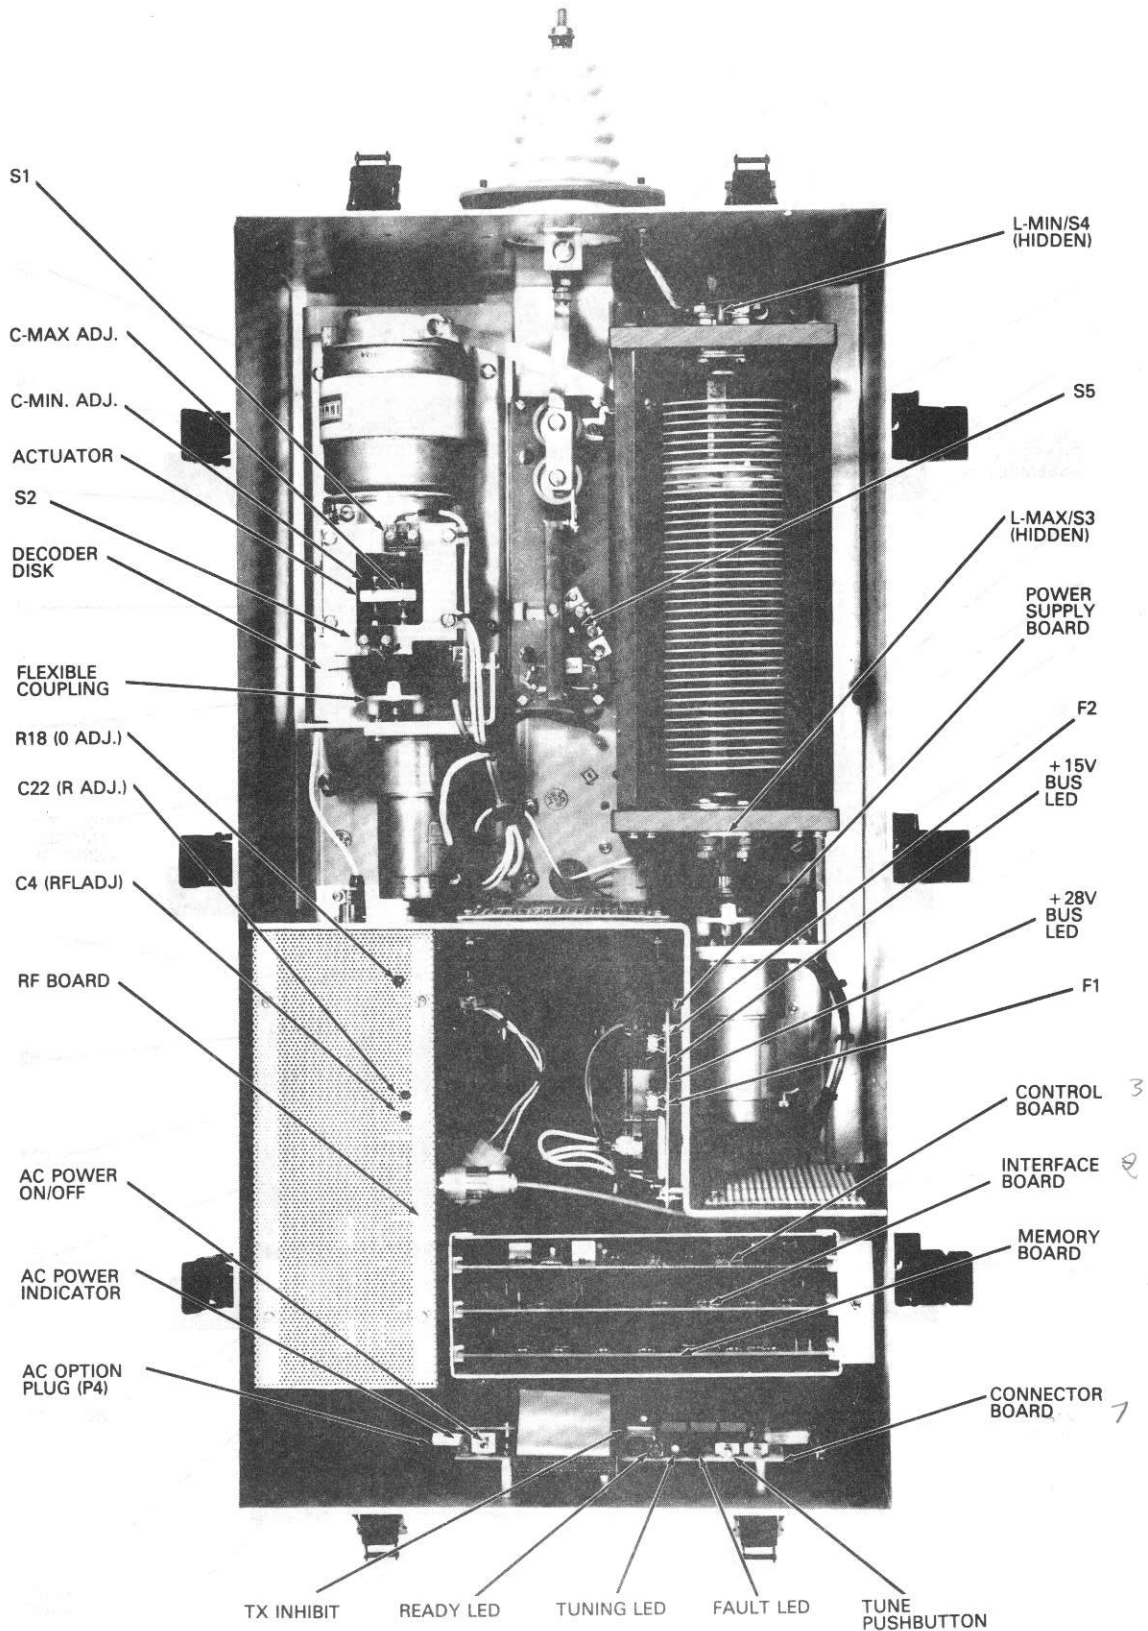
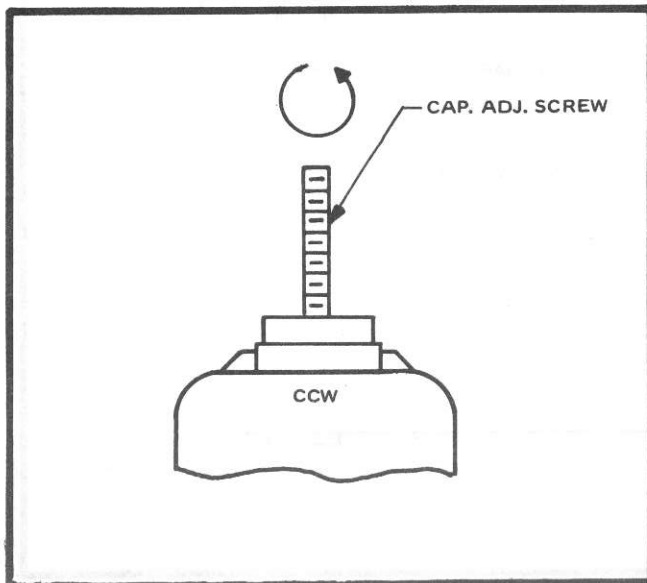

Figure 5.2 Adjustments, Indicators, Boards and Switches
Figure 5.4 Vacuum Variable Capacitor (C-Max)
- 15) Using the cramolin paste, lubricate the capacitor adjustment screw (see Figure 5.4) and the variable inductor shaft.
Refer to Figure 5.2 for the adjustment locations and Figures 5.4 and 5.5 for positioning information.